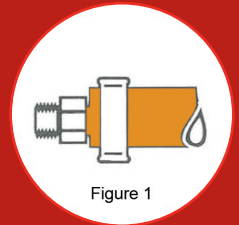
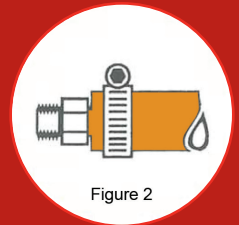

Figure 1
Figure 2
- All flexible hoses or tubing should be secured as follows: for 8mm internal diameter or greater operating at 50mbar or less then crimp clips (Figure 1), swaged fittings or worm drive clips (Figure 2) can be used. Worm drive clips should not be used for hose or tubing less than 8mm internal diameter and hose operating at greater than 50mbar.